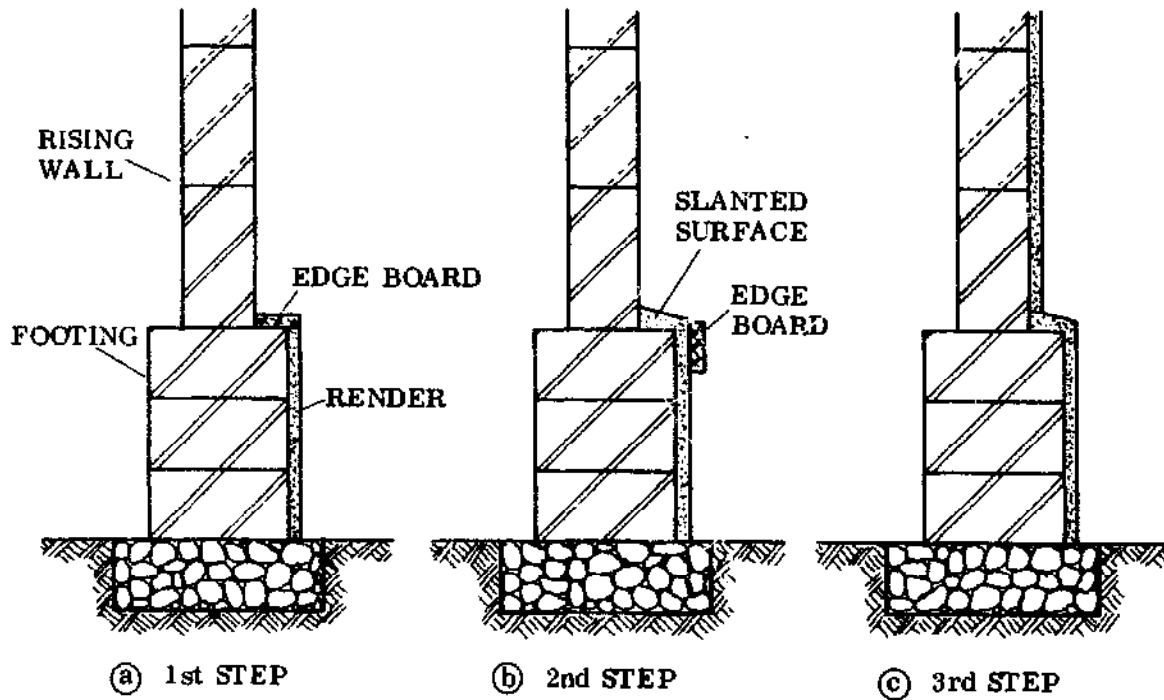

Fig. 2
- **PLASTERING THE FOOTINGS:** Here we must add a note about the footings. These have to be plastered before the rising wall. This is done as shown on the left (Fig. 2; a, b, & c).